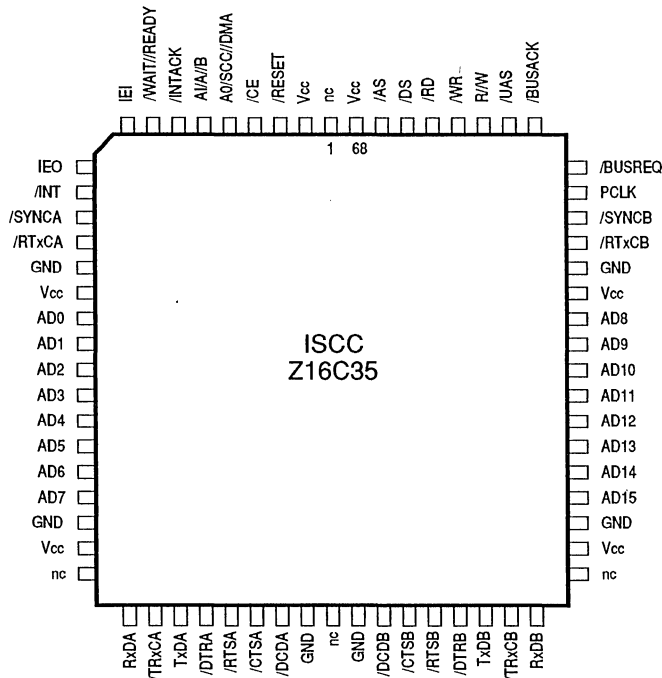

Figure 2. Pin Assignments
The following section describes the Z16C35 pin functions. Figure 2 details the respective pin functions and pin assignments. All references to DMA are internal.
**Asynchronous Modes.** Send and Receive can be accomplished independently on each channel with five to eight bits per character, plus optional even or odd parity. The transmitters can supply one, one-and-a-half, or two stop bits per character and can provide a break output at any time. The receiver break-detection logic interrupts the CPU both at the start and at the end of a received break. Reception is protected from spikes by a transient spike-rejection mechanism that checks the signal one-half a bit time after a Low level is detected on the receive data input (RxDA or RxDB in Figure 2). If the Low does not persist (e.g., a transient), the character assembly process does not start.